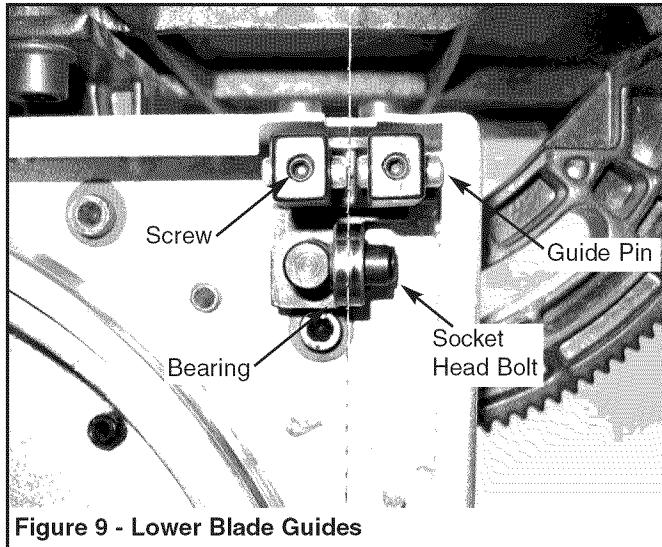

**Figure 8 - Upper Blade Guide**
- Adjust ball bearing at rear of blade by loosening socket head bolt and repositioning shaft (see Figure 8).